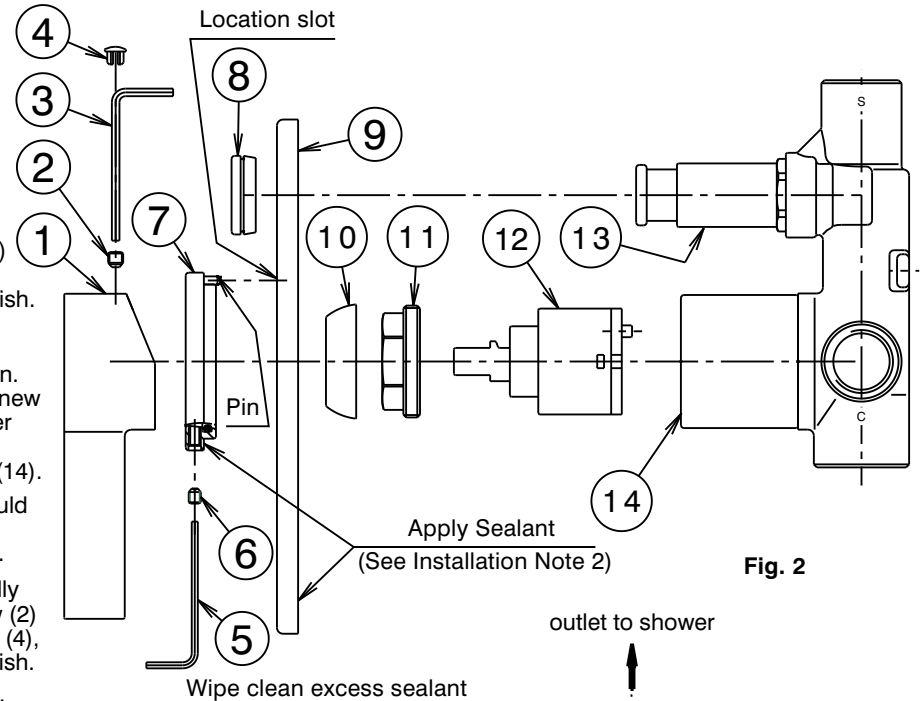

Fig. 2
- * Mixer body (14) must be installed square to wall/tile face, to ensure cover plate (9) sits flush.
- 2) Apply a suitable clear sealant to the back face of the cover plate (9), leaving an unsealed section at the bottom for drainage. Apply a suitable clear sealant in the corner around the location diameter of the retaining ring (7) to prevent water entering the wall cavity (See Fig 2).
Replacing Cartridge (Fig. 2)